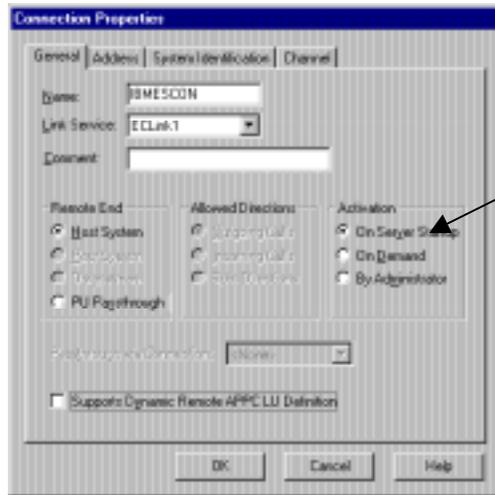

Figure 15-14. Activate at Startup
4. Verify the activation setting for the connection (Figure 15-14). ESCON connections should be set to activate on server startup. They should never be set to activate on demand.